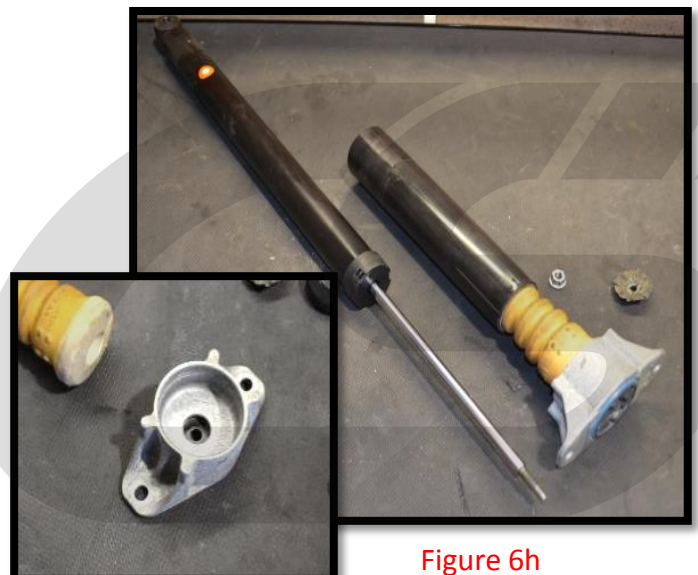

Figure 6h
- k) Remove the aluminum shock mount from the shock, and separate the bump stop and dust boot from the shock mount (Figure 6h).